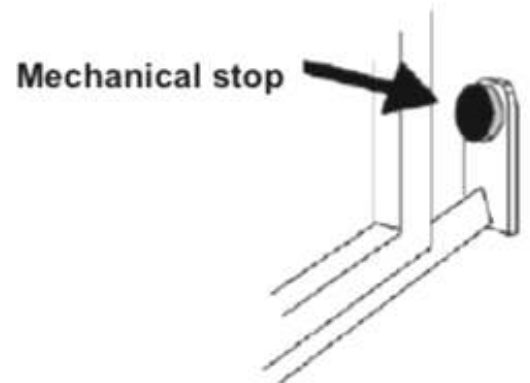
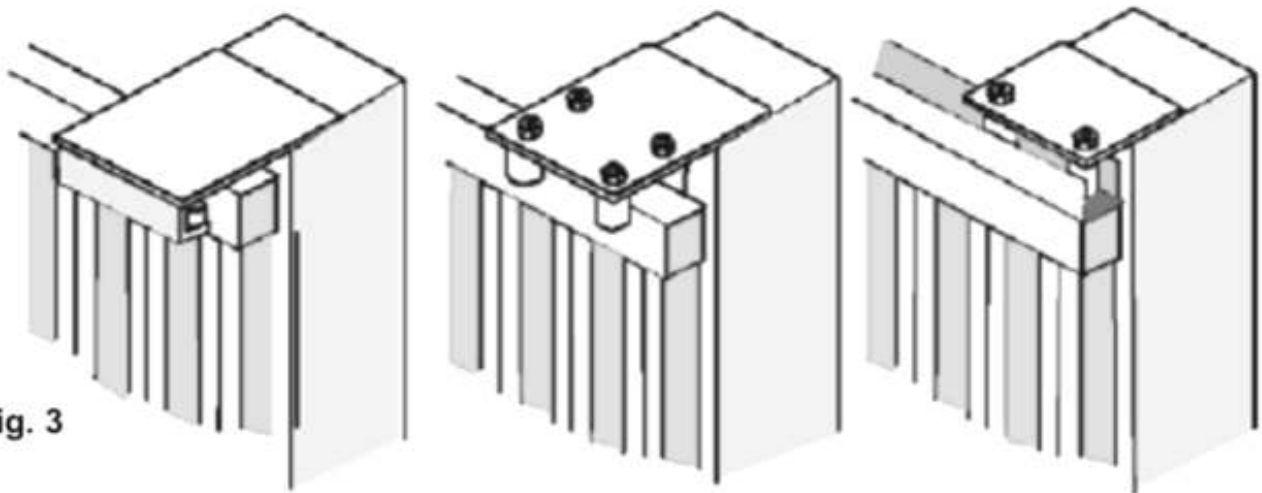

Fig. 2
Fig. 3
Position the operator and fasten it with the bolts provided. (Fig.2).
Fasten the rack to the gate firmly, leaving a distance of between 2 and 3 mm from the motor pinion (Fig.3).
- Also check that the runner on the ground (**Fig. 1**) is not deformed, is perfectly level and that the mechanical stop is present on opening (**Fig. 2**) in order to **prevent** the gate from going beyond the upper runners (**Fig. 3**)
- Check the upper runner (**see Fig. 3**) is firm and the gate slides freely.